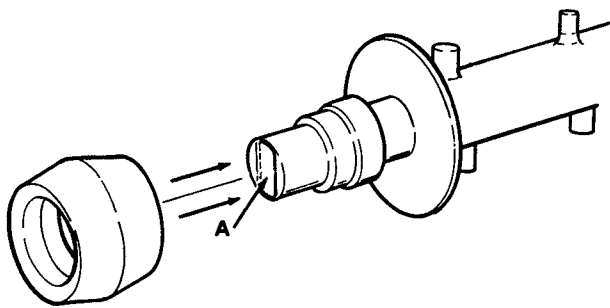
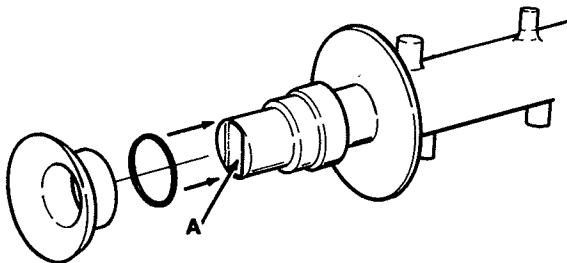

Figure 42. One Piece Rear Seal Installation
Figure 43. Two Piece Rear Seal Installation
- E. Apply a film of sanitary lubricant to the inside lip edges of the one piece rear seal (see Fig. 42) or to the "O" ring and the inside and metal parts of the two piece rear seal. (See Fig. 43.)
- F. If your rear seal is the two piece version, make certain the large "bell" end is assembled to the rear of the freezer. (See Fig. 43.)
- G. Apply a **small** amount of socket lubricant to inside of drive socket. (See A, Figs. 42 and 43.)